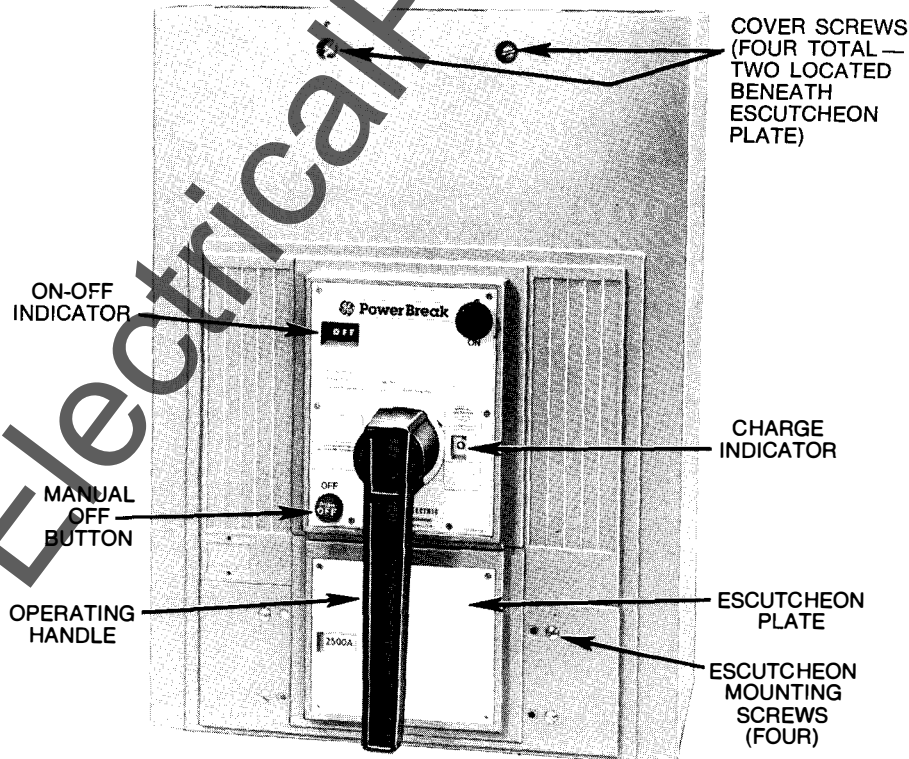

Fig. 1. Manually operated 3000A MagneTrip
- Remove the escutcheon plate from the breaker cover (4 screws). See Fig. 1.
- e. Install the escutcheon plate (4 screws). See Fig. 1.